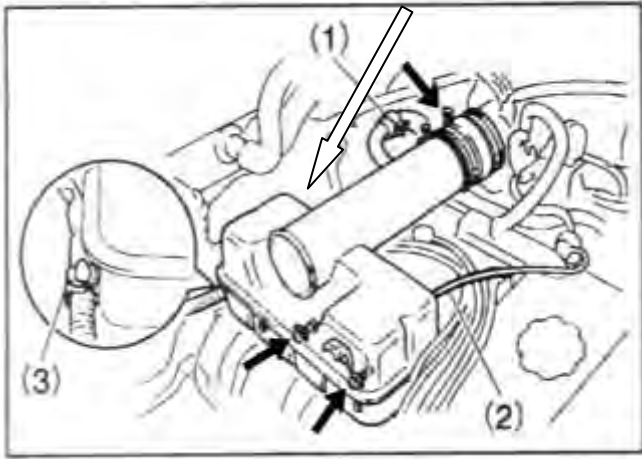

Fig. 4
- k. On the stock inlet pipe, remove the following (Fig. 4)